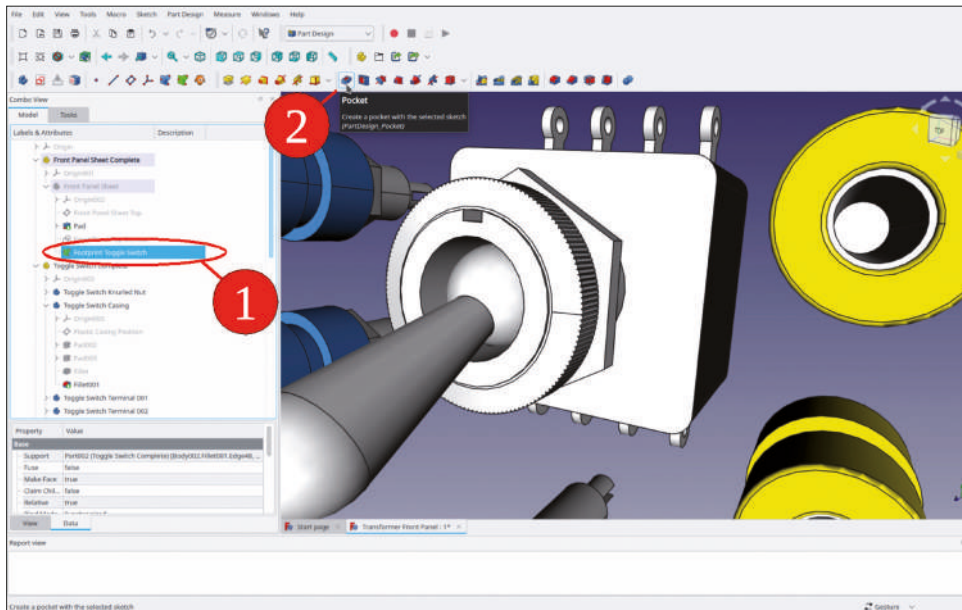

Figure 9-26
4. Locate the new SubShapeBinder in the body 'Front Panel Sheet' and rename it to 'Footprint Toggle Switch' (Figure 9-26).